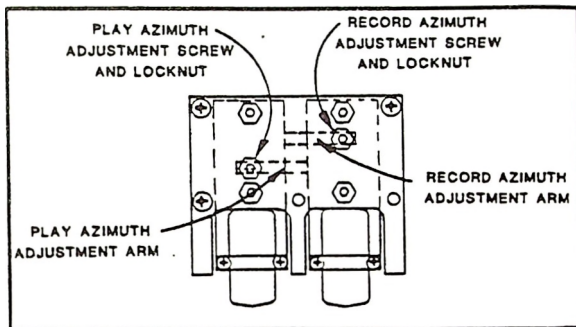

Figure 3-11
- c. Adjust the reproduce head azimuth set screw as shown in Figure 3-11 to produce maximum output level.